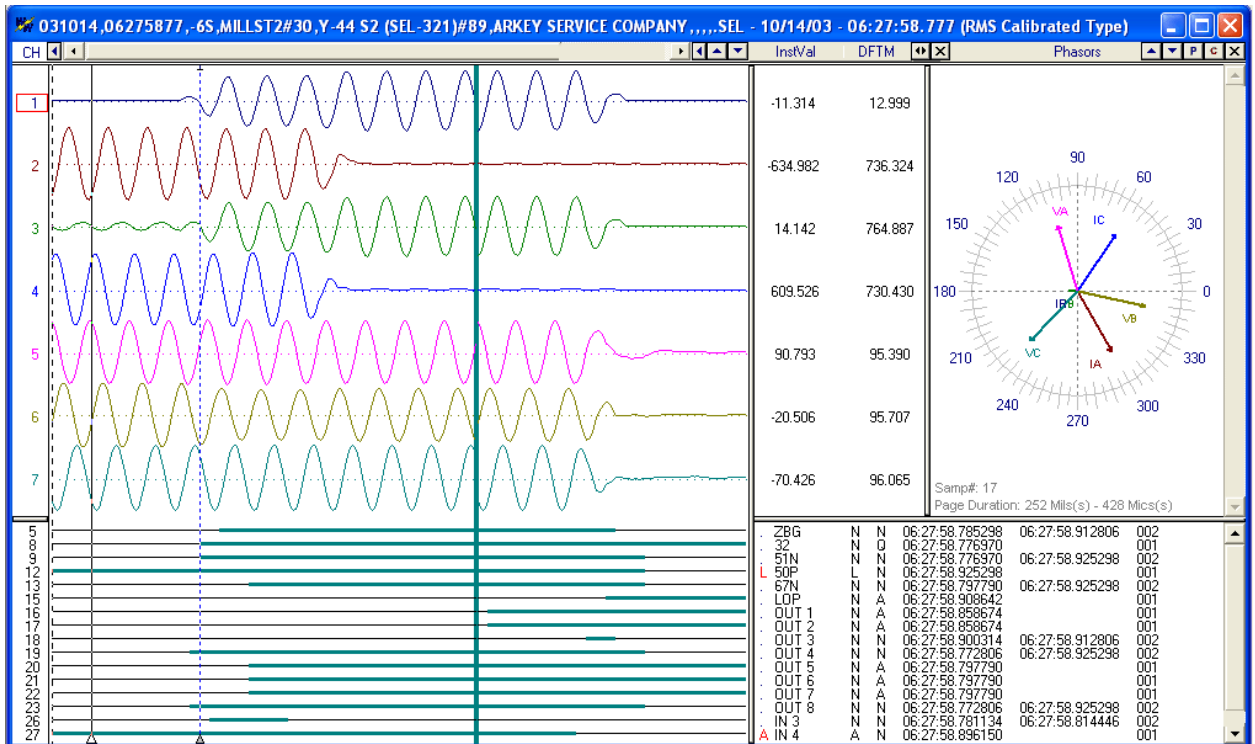

Figure 1.21 Append Waveform Files: Back to Back
- Back to Back: The files are appended back to back. No samples are deleted. Refer to Figure 1.21.